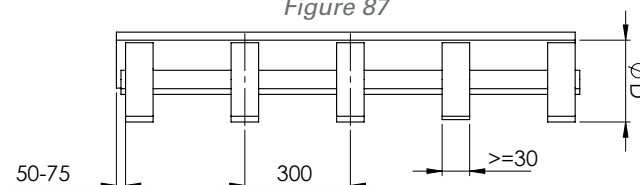

Figure 88
- Return rollers can also be used with an ELAClean® flat belt, keep in mind that this belt has to work only under-tension (fig.88).